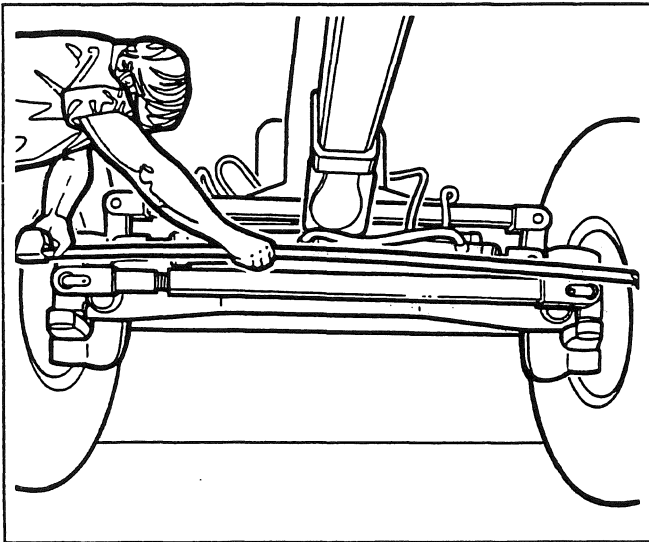

Fig. 17
- When the adjustment is correct, hold the adjustment pin with a screwdriver. Tighten the locknut (60) to the specified torque. Repeat steps 3 and 4 for the right-hand pivot block.
- Start the toe-in check by making a mark on the tires behind the axle frame and at the same level as the center line of the spindle. Measure the distance between the tires at these marks (see Fig. 17).